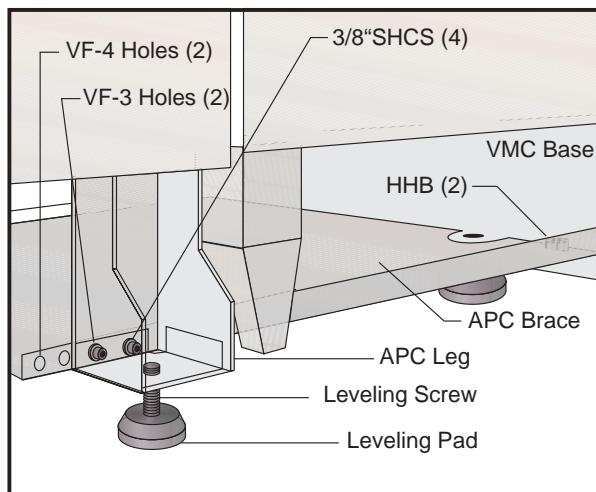

Figure 3.6 Installing the APC brace (shown).
10. Attach the APC brace to the VMC and the APC with six screws (four 3/8" screws in the APC legs and two 1" screws in the VMC base), but DO NOT TIGHTEN (see Figure 3.6). The VF-3 uses the two holes in the brace that are closest to the VMC, while the VF-4 uses the two holes farthest from the VMC.
15. Tighten down the four 3/8 SHCS and two hex-head bolts (see Figure 3.6) on the APC brace **evenly**, so the APC is not pulled out of alignment. Recheck the level and all alignments.